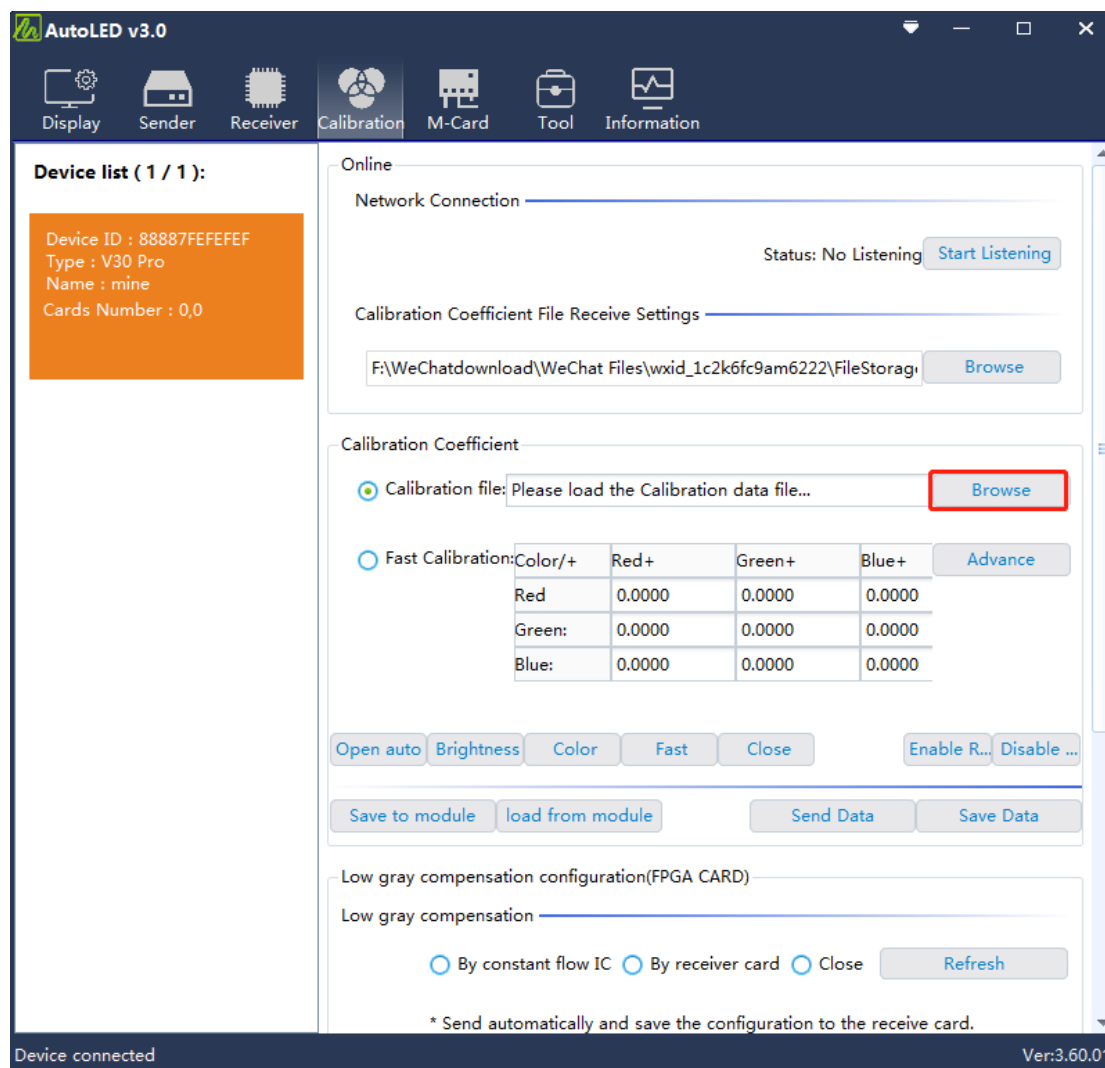

Figure 4-7-4 Calibration Data Loading
③ After the calibration data is sent, enable the calibration function to verify the calibration data.
④ If verifying that the loaded calibration data is OK, click "Save Data" to solidify the calibration data to the receiving card, as shown in Figure 4-7-4: